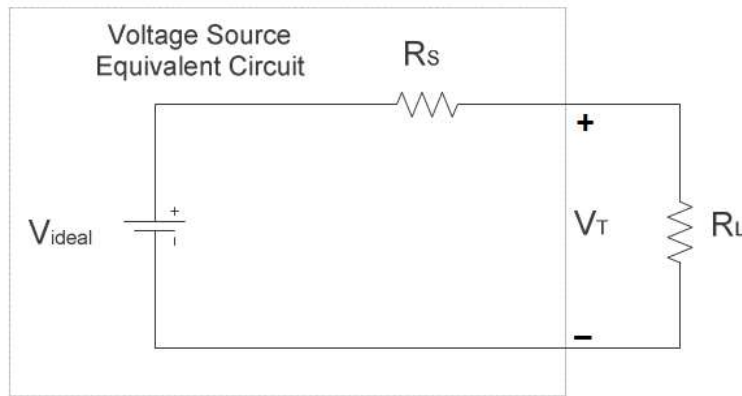

Figure 7-2 Voltage source equivalent circuit feeding a load resistor R_L
1. The ideal voltage source often appearing in electrical schematics and used in circuit analysis problems, actually is not physically possible. Voltage sources such as batteries and laboratory power supplies will have a reduced terminal voltage that depends on the amount of current delivered by the source and the voltage regulation of the source. This reduction in terminal voltage will increase with increasing load current and is often approximately accounted for by a sourcing resistance (internal resistance) placed in series with an ideal voltage source to create an equivalent circuit representing the voltage source (as shown in Figure 7-2 below). Assuming that V_T is $0.9 \cdot V_{ideal}$ and R_L is 10Ω , calculate the value of the sourcing resistance R_s .